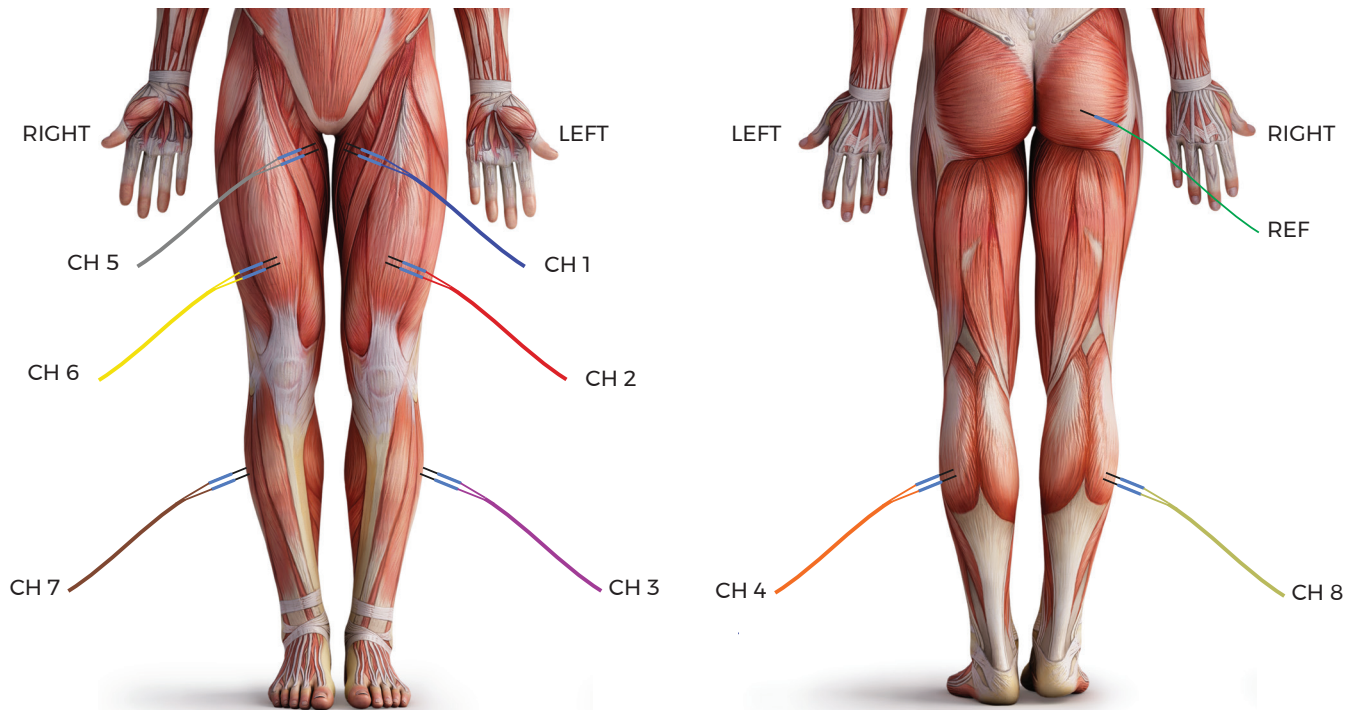

Figure 15.1: Suggested electrode placement for monitoring of fusion cages.
2. Look at Figure 15.1 (page 31) to decide which nerve roots are to be monitored.